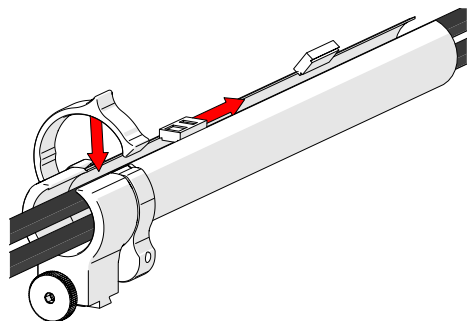

Fig. 74 - Zip up to close
2. Follow the cable placement, zipping the tube closed and closing the cable management's cable clip (Fig. 74).